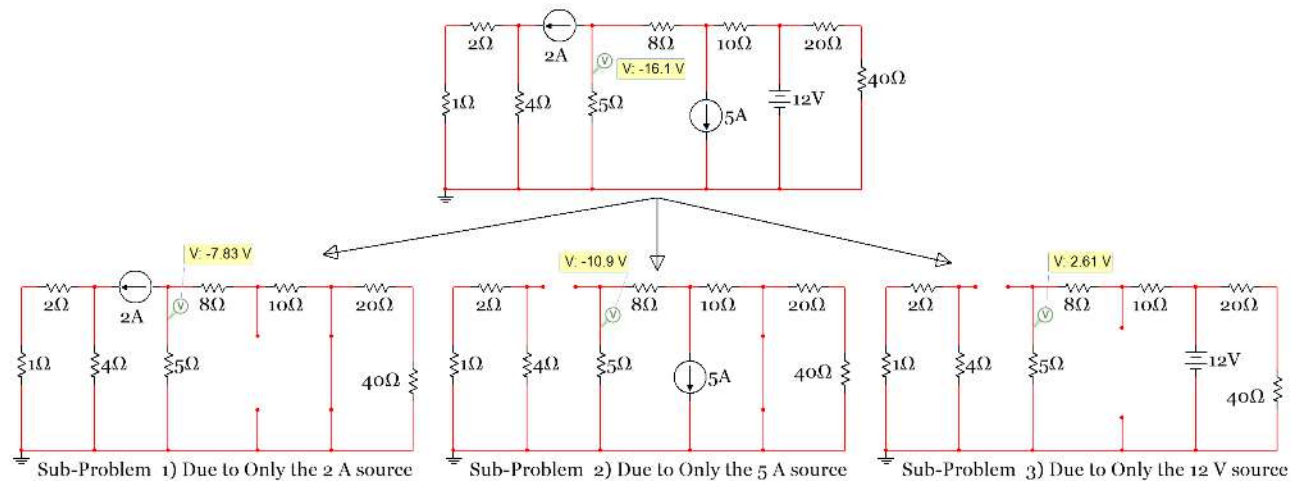
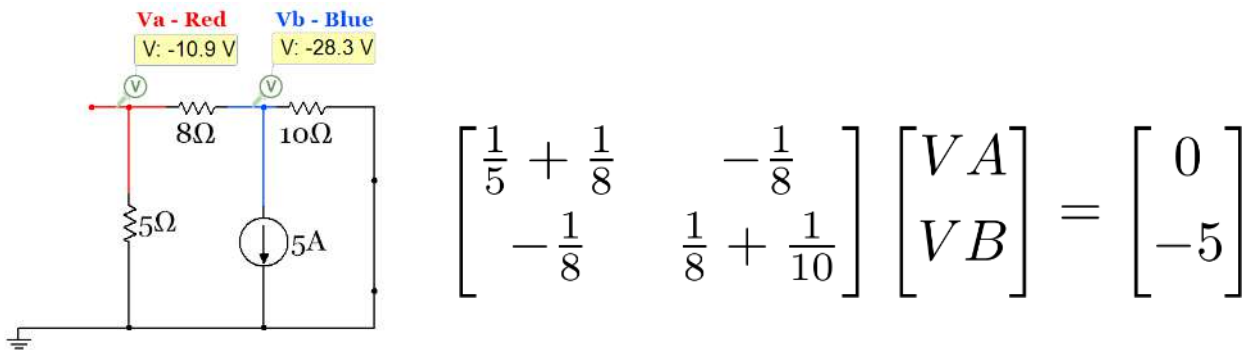

Figure 2.38: Circuit for Example 2.17
Figure 2.40: Circuit and Nodal Matrix equation for sub-problem 2 of Example 2.17
The two tricky situations mentioned above can be seen in the circuit in Figure 2.38. Situation 1 (described above) applies to the sub-problems 1 and 2 circuit in Figure 2.38 where the short circuit is in parallel with a resistor network. The 20Ω and 40Ω resistors are in series and can be added to equal 60Ω . That 60Ω resistor is in parallel with the short circuit (0Ω). As stated previously the end result will be the short circuit remaining and the 20Ω and 40Ω resistors being shorted out (as shown in Figure 2.40).
Situation 2 (described above) applies to the sub-problem 2 and 3 circuit in Figure 2.38 where the open circuit is in series with a resistor network. The network containing the 1Ω , 2Ω , and 4Ω resistors are in series with the open circuit so these resistors will have no effect on the results because no current will
Since there are 3 independent sources in this circuit it requires 3 sub-problems when using the superposition solving technique. First, $V_{5\Omega}$ will be solved Due to Only the 2 A source (bottom-left circuit in Figure 2.38). Notice how the 20 Ω and 40 Ω resistors are “shorted out” and the two wires from the 5 A source are removed. The 1 Ω and 2 Ω resistors are in series so they are added together and the 8 Ω and 10 Ω resistors are in series so they are also added together. **By making these simplifications the number of nodes is reduced from 4 to 2 (not counting the reference node).** These are allowable simplifications since the only voltage we are solving for is the voltage across the 5 Ω resistor and it is not involved in the simplification.
Next, $V_{5\Omega}$ will be solved Due to Only the 5 A source (bottom-middle circuit in Figure 2.38). The 20Ω and 40Ω resistors are removed due to “situation 1” described previously and the network containing the 1Ω , 2Ω , and 4Ω resistors are removed from the circuit due to “situation 2” described previously. After redrawing the circuit it is also a Nodal Matrix problem with a 2×2 A matrix as shown below.
Solving the Nodal Matrix equation gives $V_A = -10.87 \text{ V}$ and $V_B = -28.26 \text{ V}$ (which matches the Multisim voltage probe values shown in Figure 2.40). $V_{5\Omega_2} = V_A = \underline{-10.87 \text{ V}}$
Finally, $V_{5\Omega}$ will be solved Due to Only the 12 V source (bottom-right circuit in Figure 2.38). Again, the network containing the 1Ω , 2Ω , and 4Ω resistors are removed from the circuit due to “situation 2” described previously. After redrawing the circuit it is shown to be a simple 2 loop Mesh Matrix problem.
Solving the Mesh Matrix equation gives $I_1 = -521.74 \text{ mA}$ and $I_2 = 200 \text{ mA}$ (which matches the Multisim current probe values shown in Figure 2.40). $V_{5\Omega_3} = -I_1 \cdot 5 = \underline{2.6087 \text{ V}}$
- $V_{5\Omega} = V_{5\Omega_1} + V_{5\Omega_2} + V_{5\Omega_3} = -7.826 \text{ V} - 10.87 \text{ V} + 2.6087 \text{ V} = \underline{-16.088 \text{ V}}$ (Matches the value in Figure 2.38)